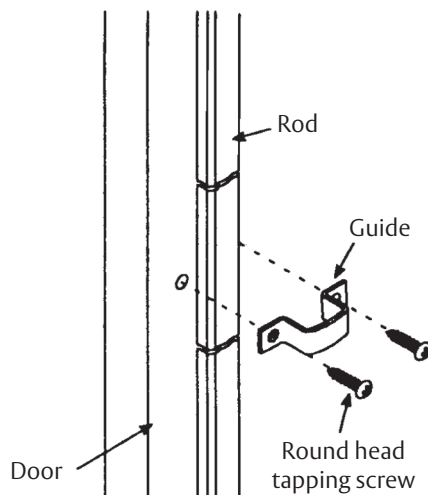

Figure 22
2. Drill holes and secure guides to the door using round head tapping screws. (Figure 22)